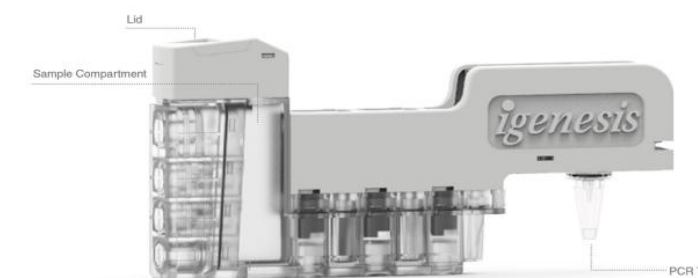

Figure 1. nCoV-Flu-RSV iCassette (Lateral View)
1.3 Open the lid of the iCassette, and pipette 200 μl of sample or controls to the nCoV-Flu-RSV iCassette sample compartment as shown in Figure 1. slowly, close the lid tightly.(Note: After the sample is added to the iCassette, the test needs to start running within 30 minutes)